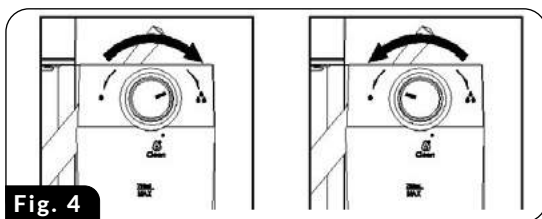

Fig. 4
CAUTION! Before preparing CAPPUCCINO, adjust the amount of steamed milk according to your preferences by turning the milk dispensing knob (23) to the left to get more steam or to the right to reduce the amount of steam (Fig. 4). The intensity of steam can also be adjusted during the steaming process.
1. Mount the selected filter basket (13) in the portafilter (10), fill it with coffee and install it in the espresso machine.
2. Ensure that there is enough water in the water tank (15) and enough milk in the milk container (19).
CAUTION! Before preparing LATTE, adjust the amount of steamed milk according to your preferences by turning the milk dispensing knob (23) to the right to get more steam or to the left to reduce the amount of steam (Fig. 4). The intensity of steam can also be adjusted during the steaming process.